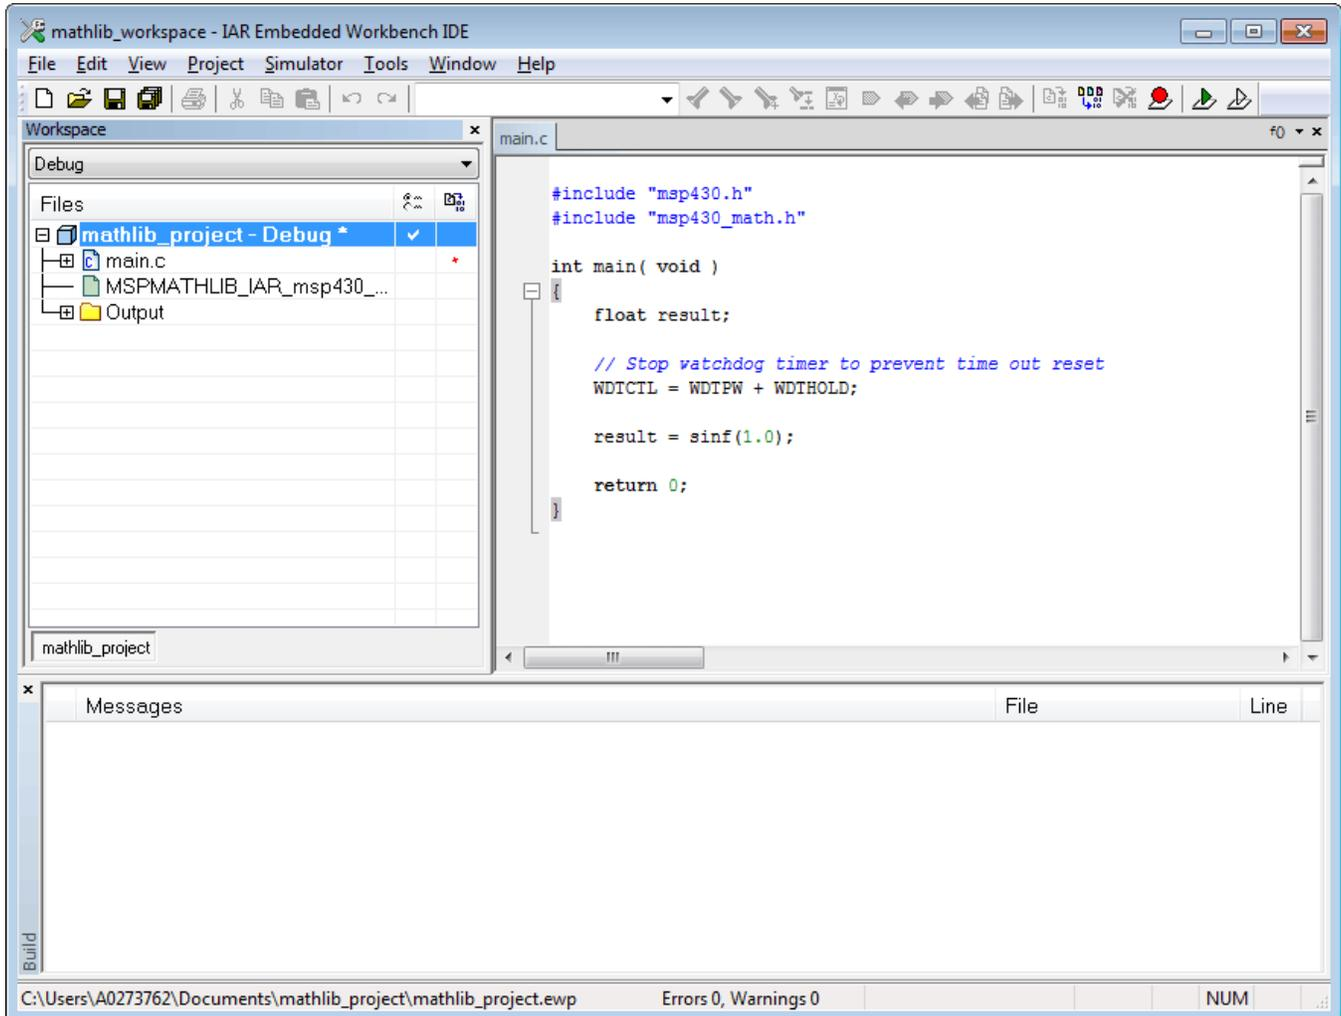

Figure 10. Replace Includes of `math.h` With `msp430_math.h`
- Replace all inclusions of `math.h` with the `msp430_math.h` header file that is located in the top-level include directory (see Figure 10). `msp430_math.h` includes `math.h` and redefines the function names to link the included library functions. Functions that are not included in MSPMATHLIB continue to use the compiler implementation.